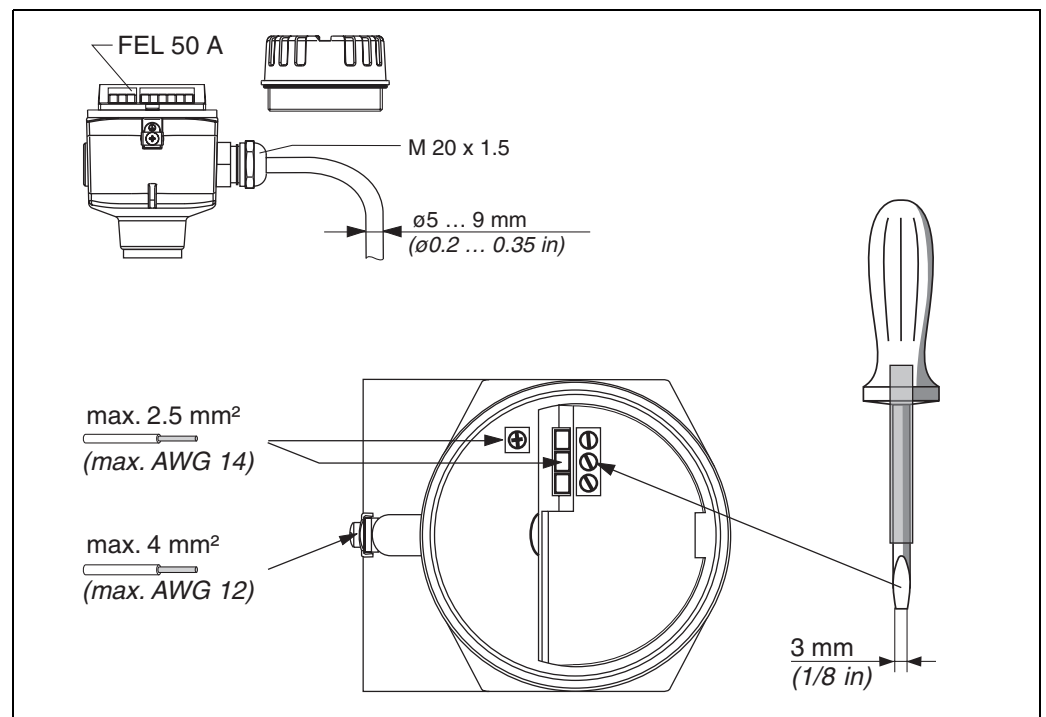
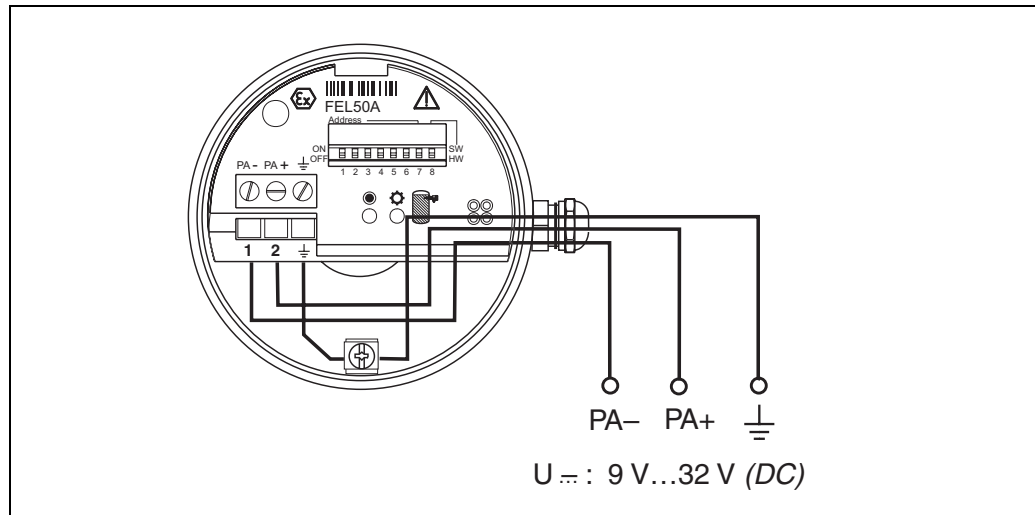

Fig. 5 Connection of transmitter with cable gland
Fig. 6 Assignment of screw terminals
3. Connect the cables in accordance with the wiring diagram: see Fig. 5 and Fig. 6